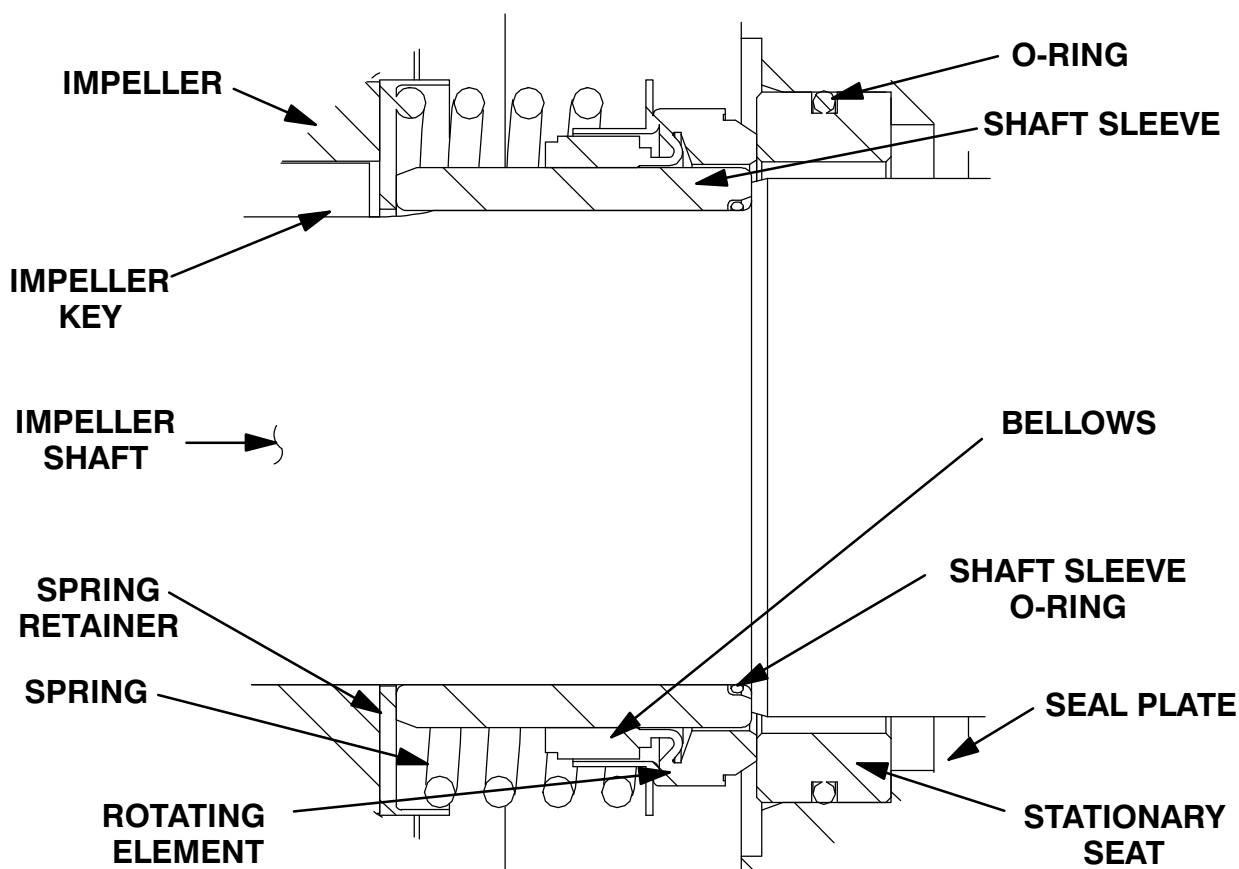

Figure 12. Seal Assembly
To ease installation of the seal, lubricate the stationary seat O-ring, the I.D. of the bellows and the O.D. of the shaft sleeve (5) with "P-80® Emulsion" or water. **Do not** use oil or any substitute lubricant other than water. Apply a drop of light lubricating oil on the finished faces. Assemble the seal as follows, (see Figure 12).